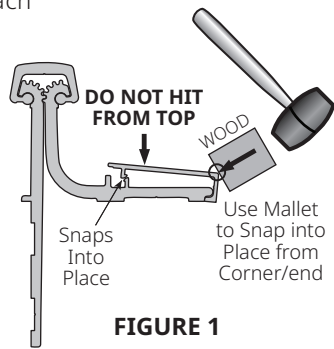

FIGURE 1
5. Install the six (6) #12-24 x 3/4" self drilling screws in the six (6) 7/32" holes located in the door leaf portion of the hinge.
8. Open the door. Enlarge the 1/4" holes on the inside face of the door using a 3/8" diameter drill. Finish attaching door leaf portion of PemkoHinge™ to the face of the door using the four (4) thru-bolts and shoulder bolts. Thru-bolts attach from inside face; shoulder bolts attach from the outside of face.
9. To complete the installation, secure the cover by hooking the edge away from hinge gears under door leaf, then snap the other edge down using a rubber mallet (**Figure 1**). Adjust so top of cover is flush with top of hinge.